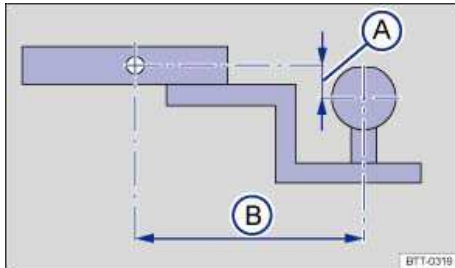

Fig. 98 Dimensions of the ball mount support.
⇒ fig. 98 (A), and the pin-to-ball distance (B).